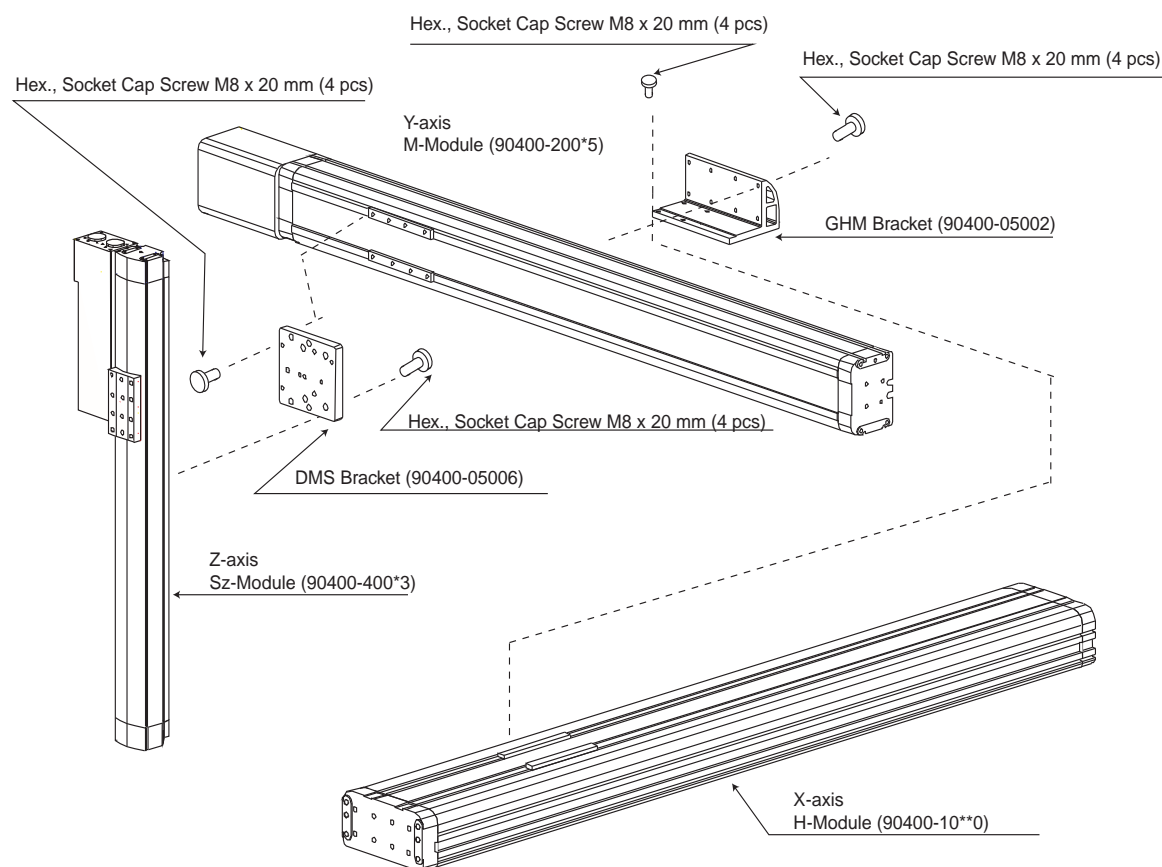

Figure 5-3. P-1 Type Mechanical Assembly
5. Mate the Y-axis to combining bracket by aligning the motor-side pin holes on the Y-axis module to the pins on the side of the bracket (these holes are on the side opposite the sliders). Carefully mate the pins and pin holes to avoid damaging the pins. Install the mounting bolts (see Figure 5-3, and refer to Table 3-1 to Table 3-3 for the mounting bolt specifications).
7. Mate the Z-axis with the combining bracket by aligning the pin holes on the Y-axis module slider to the pins on the side of the Z-axis bracket. Carefully mate the pins and pin holes to avoid damaging the pins. Install the mounting bolts (see Figure 5-3, and refer to Table 3-3 for the mounting bolt specifications).